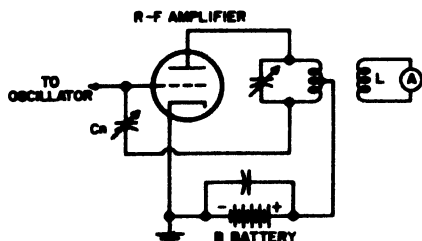

Fig. 40-19. Circuit showing how a radio-frequency amplifier is neutralized.
**Neutralizing the Radio-Frequency Amplifier.** When the radio-frequency amplifier tube is a triode, we must neutralize the feedback that occurs through the capacitance between the grid and plate of the tube. We encountered this problem in the study of receivers (pages 183-184). Figure 40-19 shows the circuit employed to neutralize the amplifier tube in a transmitter.